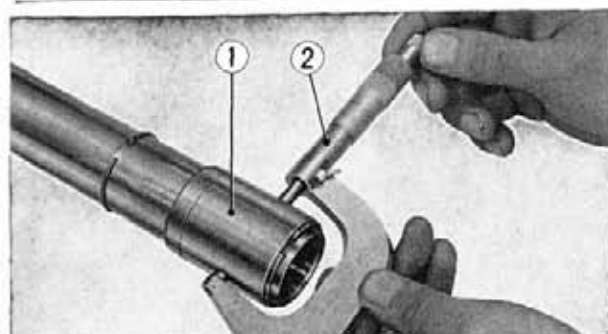

Fig. 11-17 ① Front fork piston
② Front fork pipe setting bolt (8 mm)
③ Front fork pipe setting bolt (10 mm)
3. Measure the diameter of the front fork piston. Use a micrometer to perform this check and if it is found to be less than 1.551 in. (39.4 mm), the piston should be replaced. (Fig. 11-17)